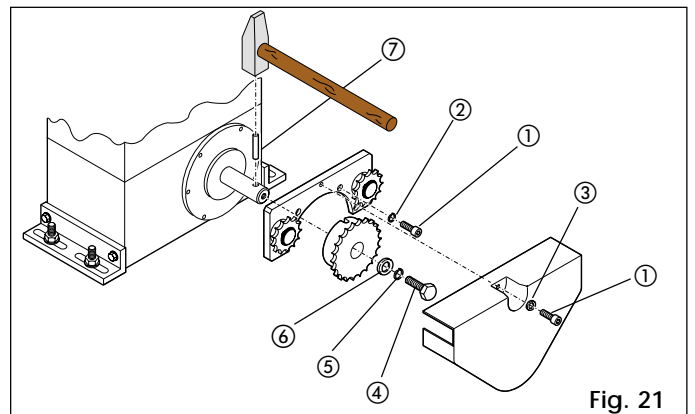
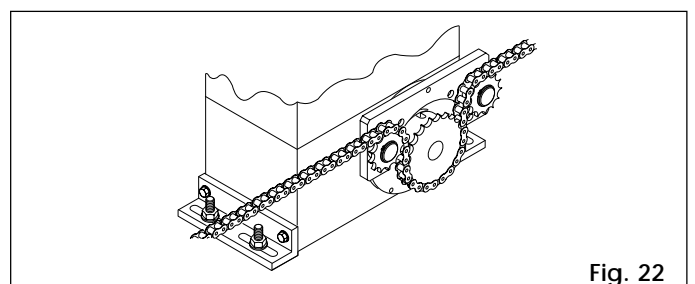

Fig. 21
Fig. 22
**4.5.2. MODEL 844MC RF (Figs. 21 - 22)**
- Insert spring pin ⑦ in the shaft with the aid of a hammer.
- Fit the chain pinion on the shaft, ensuring that the notch on the pinion coincides with the spring pin; fit screw ④ and washers ⑤ and ⑥ and tighten.
- Fit the idle sprocket carrier plate on the gear motor flange, removing the four upper bolts and replacing them with the 5x12 hex bolts ① and washers ② in the kit as shown in Fig. 21.
- Fit the chain as shown in Fig. 22 and fit the casing with screws ① and washers ③ (Fig. 21).